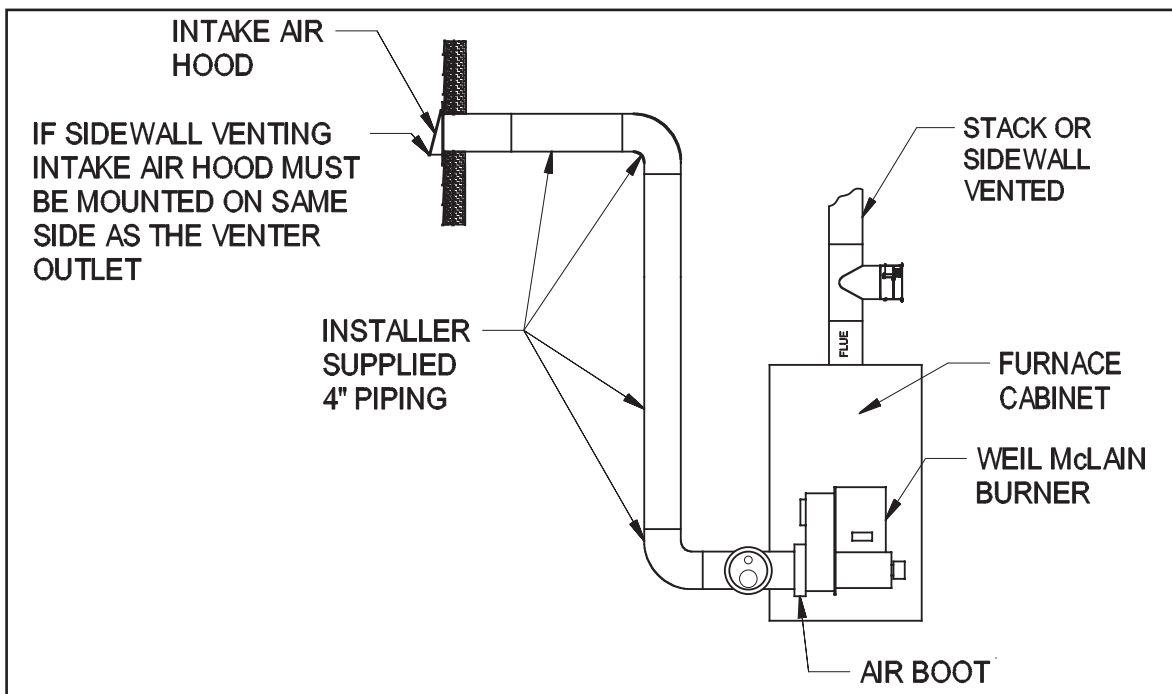

Figure 8
12. Refer to Figure 8 for general installation layout.
### AIR DUCT AND AIR INTAKE HOOD (See Figure 8)